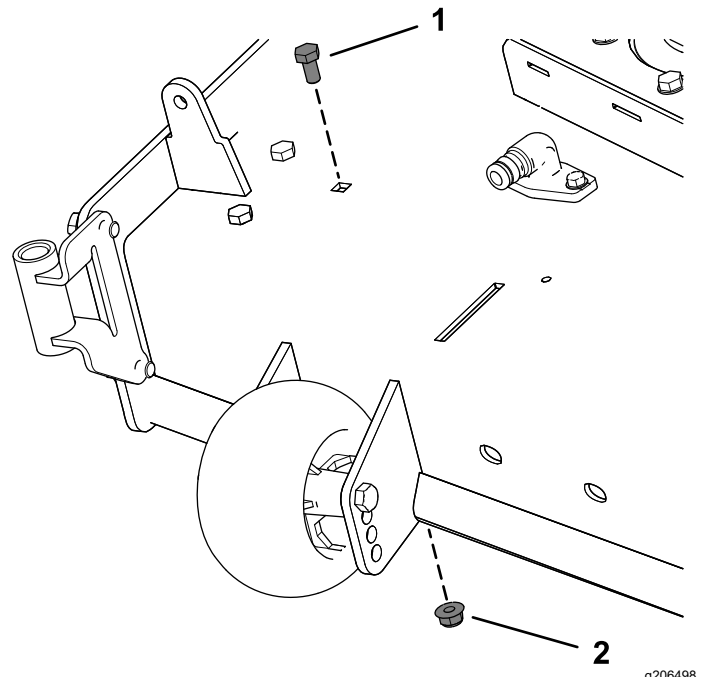

Figure 8
2. Remove the existing bolt and nut from the mower deck (Figure 8).
For 54-inch mower deck, remove the bolt and nut as shown in Figure 8.